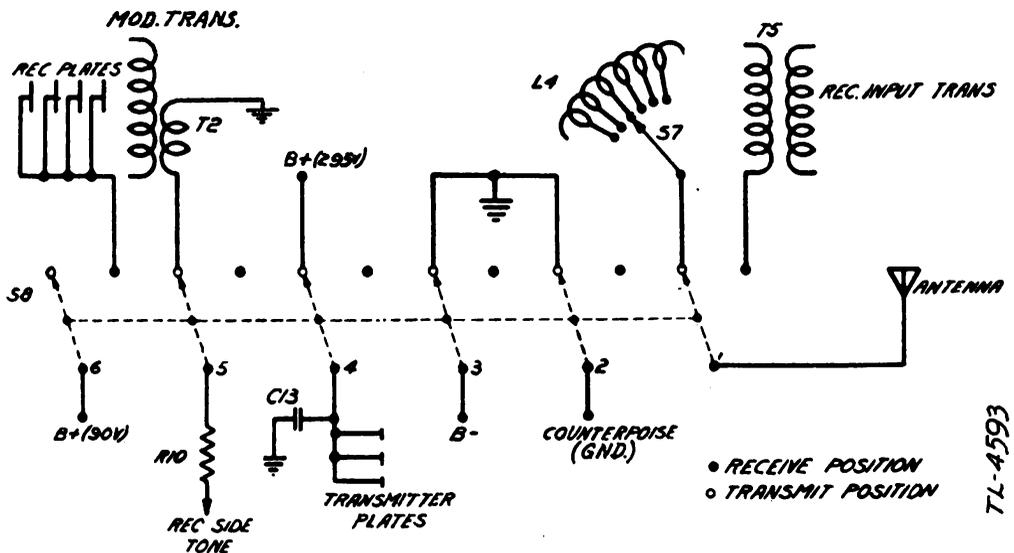

FIGURE 14.—REC-TRANS switch—functional diagram.
g. Receive-transmit switch (fig. 14).—The REC-TRANS switch S8 has six sections of two positions each. Switch S8 serves to switch the antenna and counterpoise from receiver to transmitter. In the transmit position, it opens the receiver plate circuit, completes the transmitter plate circuit, and connects the sidetone voltage to the receiver headphones.